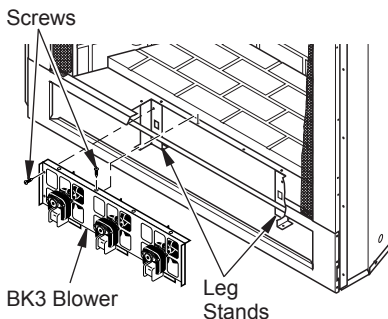

Figure 16 - Mounting BK3 Blower
- Place BK3 fan assembly between two leg stands with fan blades pointing toward rear of fireplace (see Figure 16).
- Using screws provided, fasten upper flange of blower bracket to hearth pan and end flanges to leg stands (see Figure 16, page 15).